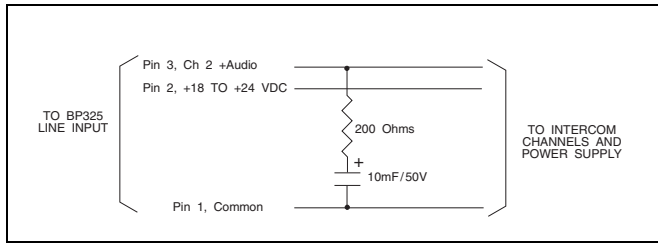

FIGURE 1. LINE INPUT Connector Wiring for 1-Channel Operation with Non-RTS Power Supply
Several internal option switches and jumpers can modify the belt pack’s operation. The factory settings are summarized below. To change any of the factory settings, remove the rear cover screws as shown in Figure 1. Jumper and switch locations are shown on the label inside the rear cover.
1. Referring to Figure 1, remove all three screws (10a and 10b) on the back connector panel of the BP325. Remove the rear cover/belt clip assembly.